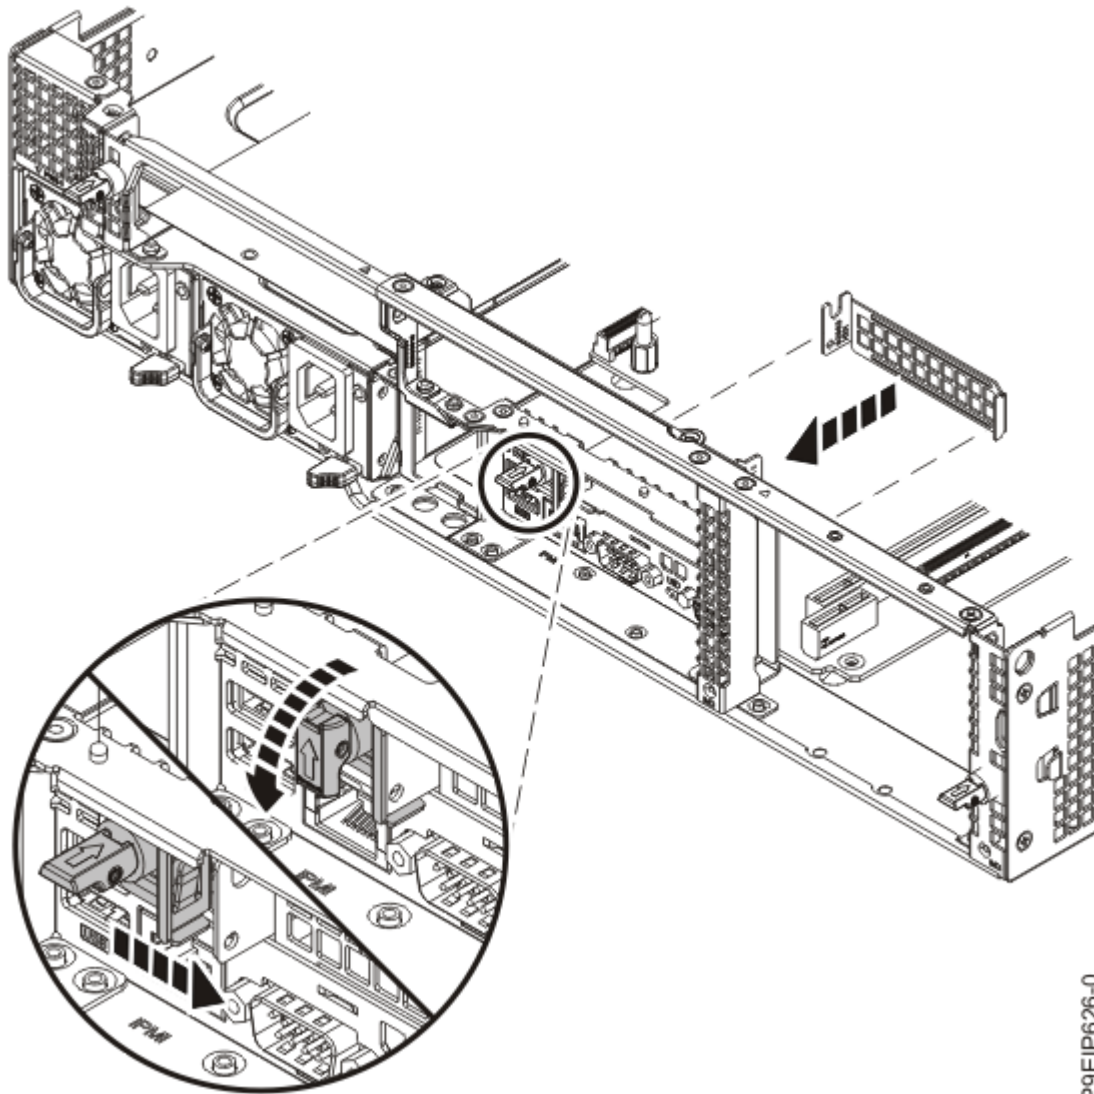

Figure 29. Sliding the tail-stock retainer to the closed position
- d) Close the retaining door by sliding it against the tail stock as shown in Figure 29 on page 31, then reset the retaining pin.